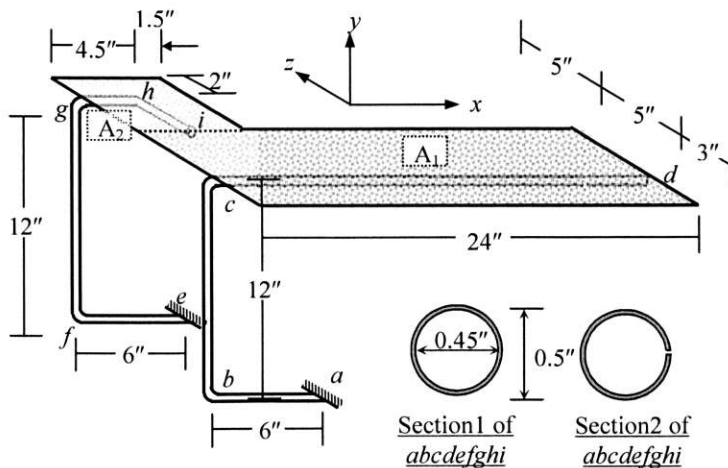

Fig. 1
1. Fig. 1 shows the frame system *abcdefghi* supporting the top of a classroom chair, which carries uniformly distributed load  $1 \text{ lb/in}^2$ .
2. For the frame system supporting the top of a classroom chair carrying uniformly distributed load  $1 \text{ lb/in}^2$  (as shown in Fig. 1), the frame *efghi* supports load on area  $A_2$  only.